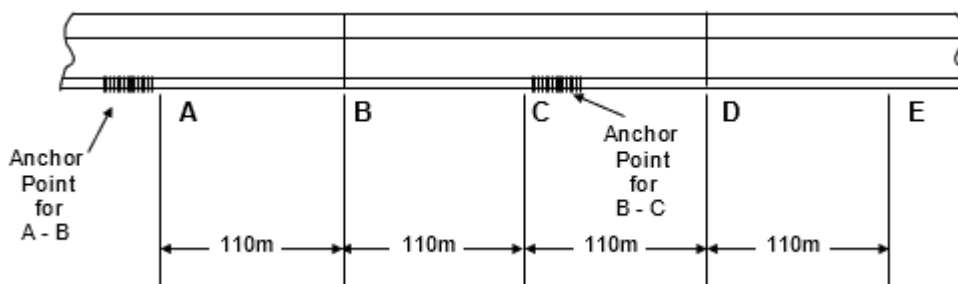

Figure 8 - Anchor points
3. Create anchor points at points A and C (110m either side of joint B) (See Figure 8)